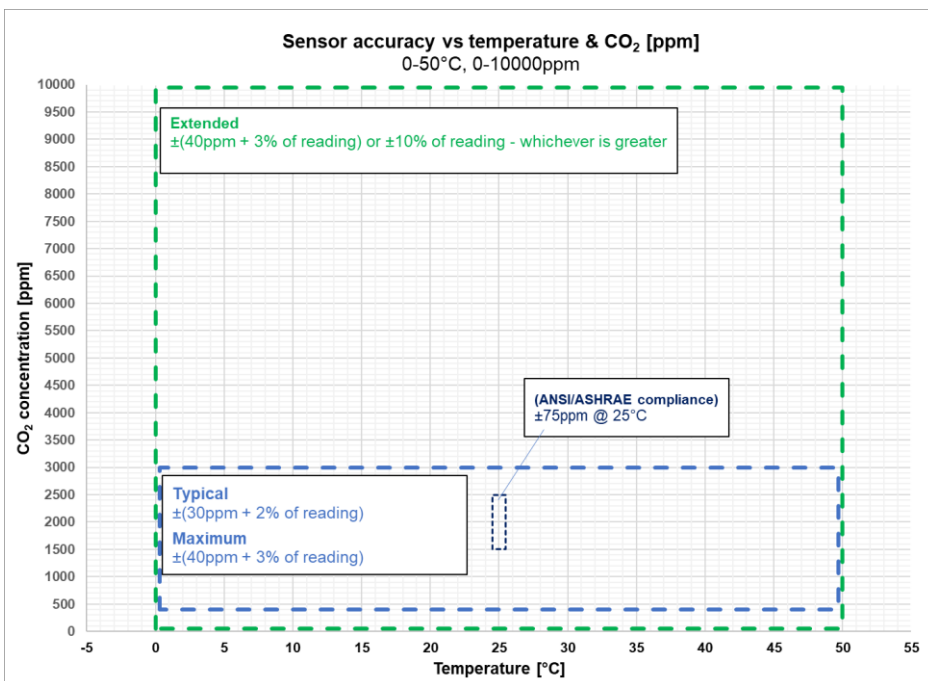

Figure 4 Accuracy over complete operating range (temperature and measurement of CO2).
- Note 3: ANSI/ASHRAE Addendum ab to ANSI/ASHRAE Standard 62.1-2022 specifies sensor to be accurate within ±75ppm at concentrations of 600, 1000, and 2500ppm when measured at sea level at 77 °F (25 °C). See Figure 4.
- Note 4: In normal IAQ applications. Accuracy is defined after minimum three (3) ABC periods of continuous operation with ABC on. Some industrial applications do require maintenance. Contact Senseair for further information!